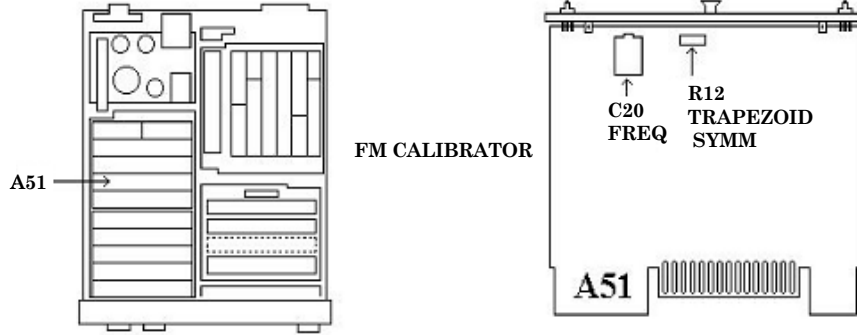
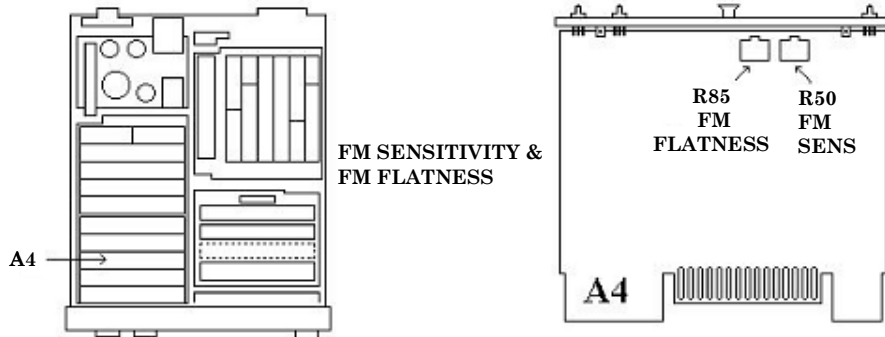
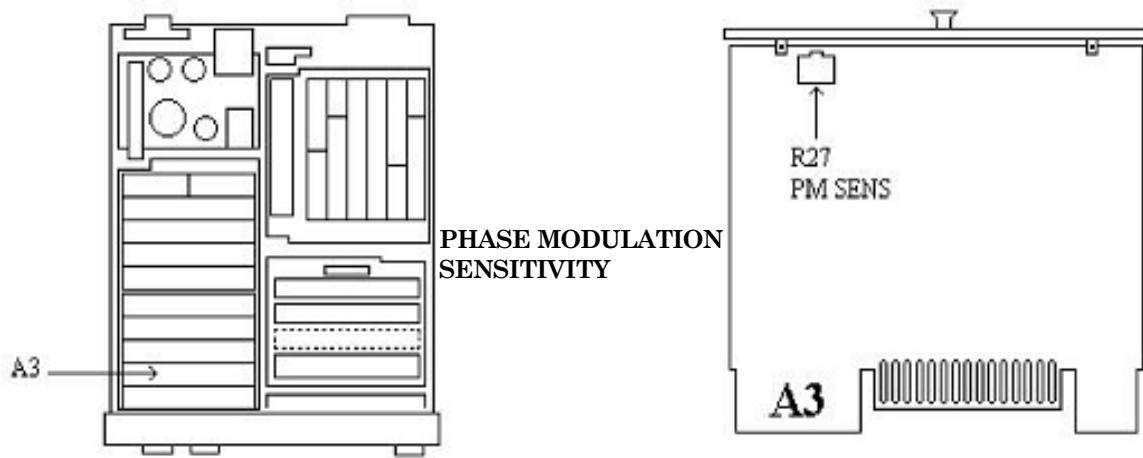

Figure 8. A51 board.
Figure 9. A4 board.
Figure 10. A3 board.
- (11) Disconnect all external equipment from TI and connect TI sensor module to TI **CALIBRATION AM/FM OUTPUT**.
- (12) Press TI keys as listed in (a) through (d) below:
- (13) Adjust A51C20 FREQ (fig. 8) for a TI display between 1009000 and 1011000. (R)
(14) Press TI keys as listed in (a) through (d) below:
(15) Alternately switch TI **DETECTOR** between **PEAK+** and **PEAK-** and note the display for each detector.
(16) Adjust A51R12 **TRAPEZOID SYMM** (fig. 8) until the readings are the same for both detectors within  $\pm 0.010$  kHz. (R)
(17) Press TI keys as listed in (a) and (b) below:
(18) Allow TI to take at least two readings.
(19) Adjust A4R50 **FM SENS** (fig. 9) for a displayed indication between 99.95 and 100.05 percent. (R)
- (24) Set AM/FM test source **TEST MODE** switch to **FM**.
- (25) Adjust AM/FM test source **CARRIER FREQUENCY TUNE** for a TI indication of approximately 400 MHz.
- (26) Press TI keys as listed in (a) through (c) below:
- (27) Adjust calibrator level for a TI indication of 280 kHz.
- (28) Press calibrator **NEW REF** key.
- (29) Press TI **RATIO** key.
- (30) Change calibrator output frequency to 150 kHz.
- (31) Adjust A4R85 FM FLATNESS (fig. 9) for a display between 99.9 and 100.1 percent. (R)
- (32) Press TI keys as listed in (a) through (c) below:
- (33) Set calibrator for a wideband output frequency of 1 kHz at an amplitude of 500 mV.
- (34) Move TI sensor module from AM/FM test source **FM OUTPUT** to **FM/4 OUTPUT**.
- (35) Adjust AM/FM test source **CARRIER FREQUENCY TUNE** for a TI indication of approximately 100 MHz.
- (36) Press TI keys as listed in (a) and (b) below:
- (37) Adjust calibrator output for a TI indication 100 kHz.
- (38) Press TI **MEASUREMENT  $\Phi$ M** key.
- (39) Adjust A3R27 PM SENS (fig 10) for a TI indication of  $100 \pm 0.2$  rad. (R)
- (40) Reduce all outputs to minimum and disconnect equipment setup.